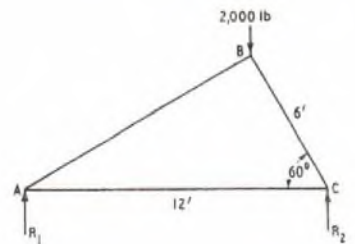

Fig. 1
Q. 2. The pin-jointed frame shown in Fig. 1 supports a load of 2,000 lb. Find the loads in the members AB and BC, and the values of the reactions R_1 and R_2 .